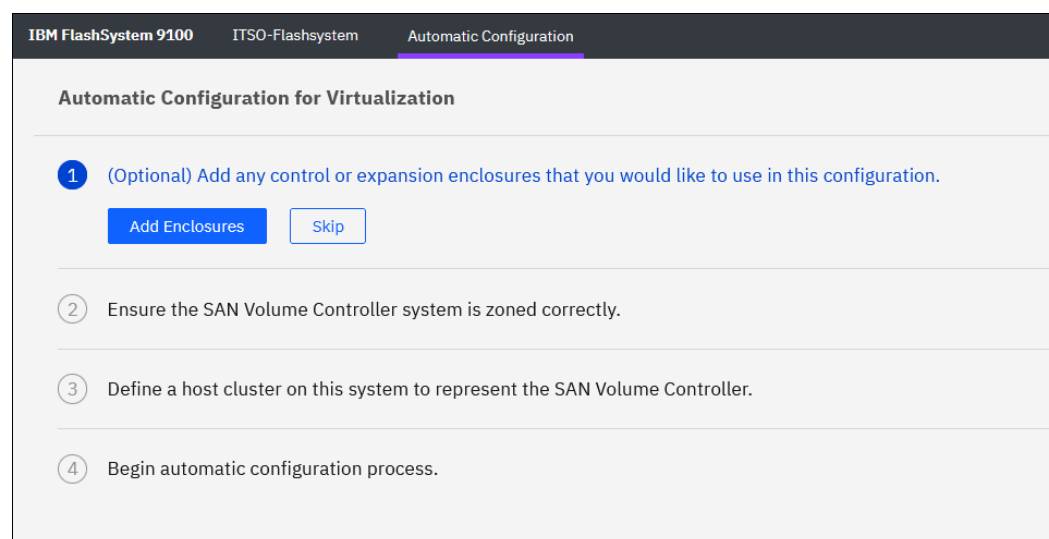

Figure 3-51 Automatic configuration: Add Enclosure
2. If any control or expansion enclosures must be included as part of the external storage to be virtualized, you can select to add them. If you do not have more enclosures to add, this part of the prerequisite steps can be skipped. Click **Add Enclosure** to start the adding process, or click **Skip** to move to the next step (see Figure 3-51).